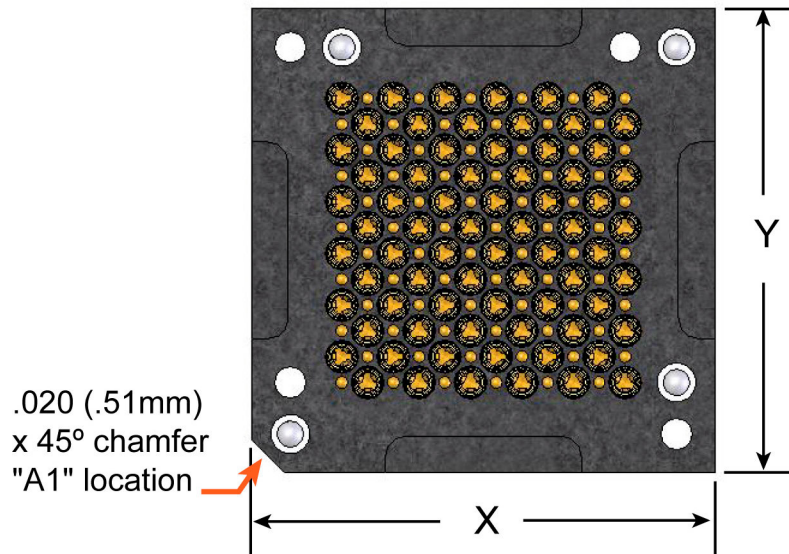

Fig. 2
- 3.1 Dimension in the "X" axis is 2.0mm larger than the BGA/LGA Device. [Fig. 2]
- 3.2 Dimension in the "Y" axis is 2.0mm larger than the BGA/LGA Device. [Fig. 2]
- 3.3 0.020" (0.51mm) chamfer indicates "A1" location. [Fig. 2]